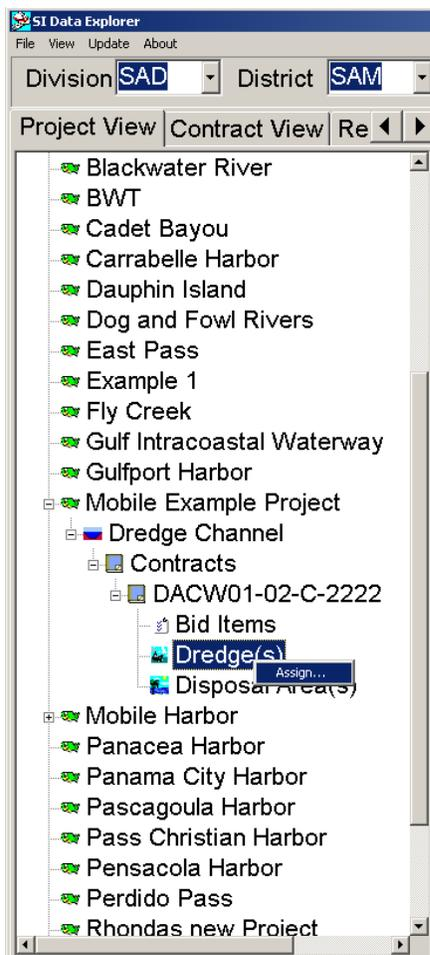

Figure 1.16 Assigning a dredge
1. Right click on *Dredges* just below the contract number as seen in Figure 1.16.